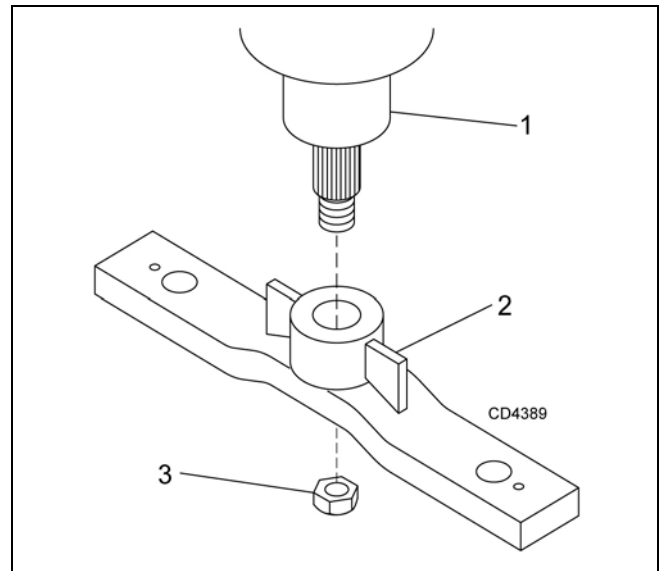

Figure 20. Crossbar Installation
2. Install crossbar (2) on splined shaft. See Figure 20. Install nut (3). Torque nut to 450 lbs-ft. Install cotter pin.